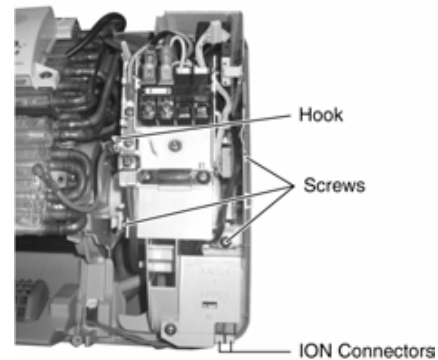

Fig. 6
2. Release the ION connectors. (Fig. 6)
3. Release the 3 screws. (Fig. 6)
4. By pressing down the hook at the left, you will be able to remove the Control Board. (Fig. 6)